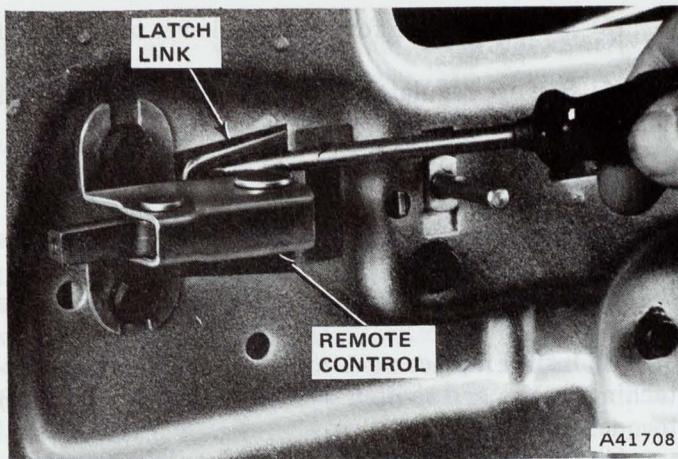

Fig. 3J-38 Remote Control Link Removal—Matador
- (1) Remove door trim panel and water dam paper.
- (2) Remove remote link from remote control by prying up link (fig. 3J-38).
- (3) Remove remote control attaching screws and remote control.